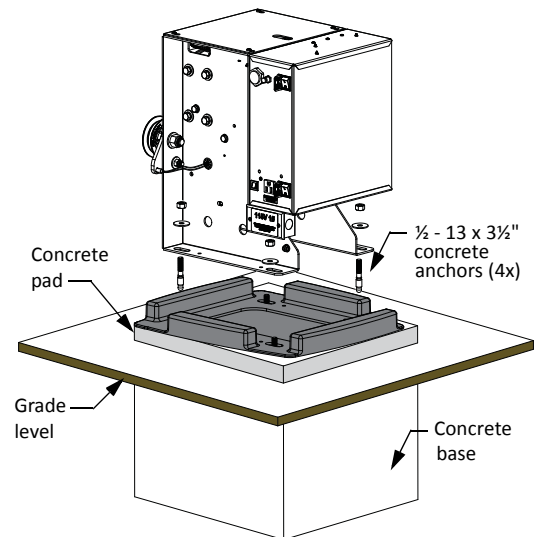

Figure 1-10.
4. Mount the operator with four $\frac{1}{2}$ - 13 x $3\frac{1}{2}$ -inch concrete anchors as shown in Figure 1-10.